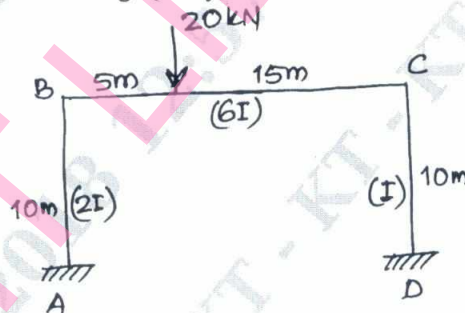

Fig.Q.6
- 6 Analyze the rigid frame shown in Fig.Q.6 by Kani's method and draw BMD. (16 Marks)